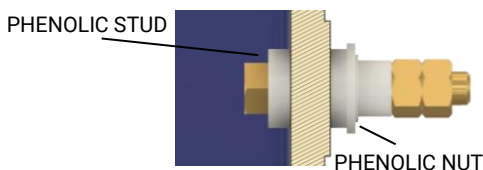

Figure1:
The phenolic stud (Figure 1) connects the cable to the circuit board inside the enclosure, serves as an electrical insulator, and prevents particulates from entering or exiting the enclosure.
5. Remove phenolic nut (Figure 1) using tongue-and-groove pliers.
2. Attach phenolic nut to secure the stud, ensuring that it is facing so that the lip is not flush against the enclosure wall, as seen in Figure 1. Tighten using tongue-and-groove pliers.
5. Slide ring terminal onto bolt and install outer brass nut, tightening to 16 ft-lbs. The final assembly will look like the one in Figure 1.
8. Replace cover and secure using (14) 5/16" bolts. Tighten to 11 ft-lbs using 1/2" wrench.